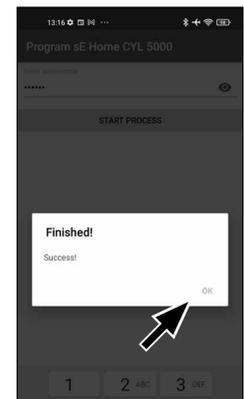

Fig. 78
- ⑭ As soon as the programming has been completed successfully, you will receive a corresponding feedback. Confirm the name with "OK" (Fig. 78).
- ⑮ If the process failed, repeat the steps starting from step 6.